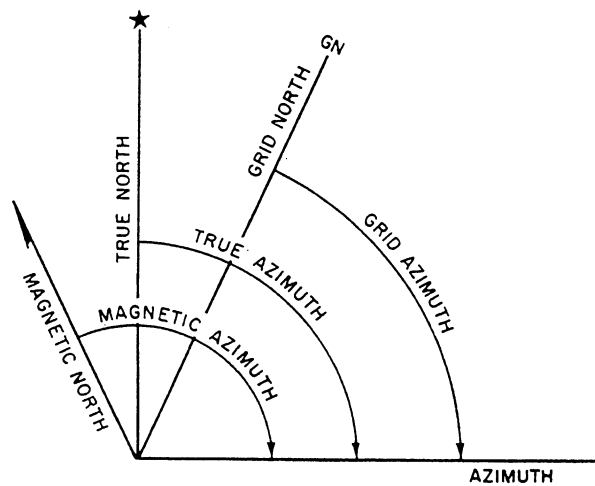

Figure 5-21.—True, magnetic, and grid azimuths.
**TRUE NORTH.** This is a line from any position on the surface of the earth to the North Pole. All lines of longitude are true north lines. True north is usually symbolized by a star (fig. 5-21).
**MAGNETIC NORTH.** The direction to the magnetic North Pole is indicated by the north-seeking needle of a magnetic instrument. Magnetic north is usually symbolized by a half arrowhead (fig. 5-21).
**GRID NORTH.** This is the north established by the vertical grid lines on the map. Grid north may be symbolized by the letters *GN* (fig. 5-21).